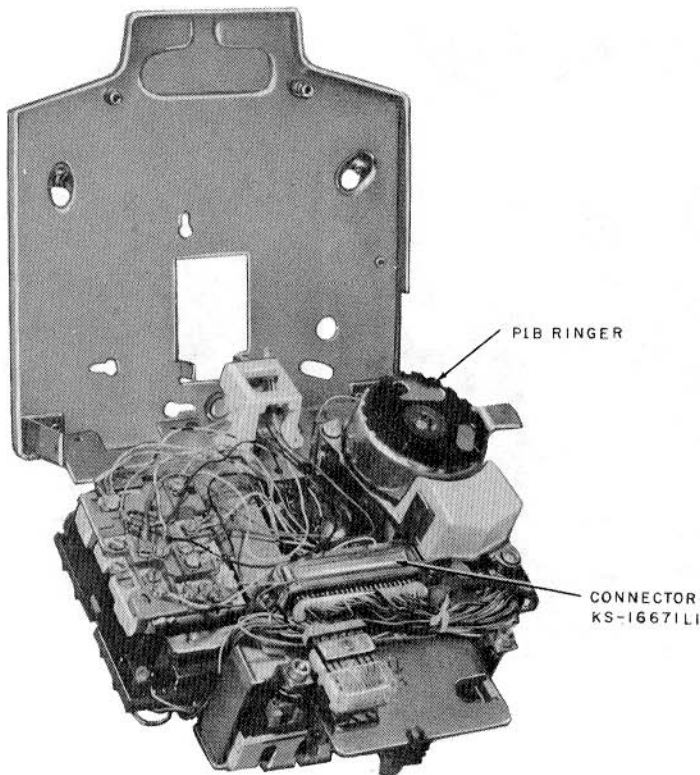

Fig. 6—851CM or 2851CM Telephone Set Showing KS-16671L1 Mounting Cord Connector
3.09 The 851CM and 2851CM telephone sets are equipped with a KS-16671L1 connector (Fig. 6). An A25B connector cable is required to connect set to key equipment (Fig. 30 and 31).
4.03 For sets equipped with the KS-16671L1 connector, (Fig. 6) an A25B connector cable is required.